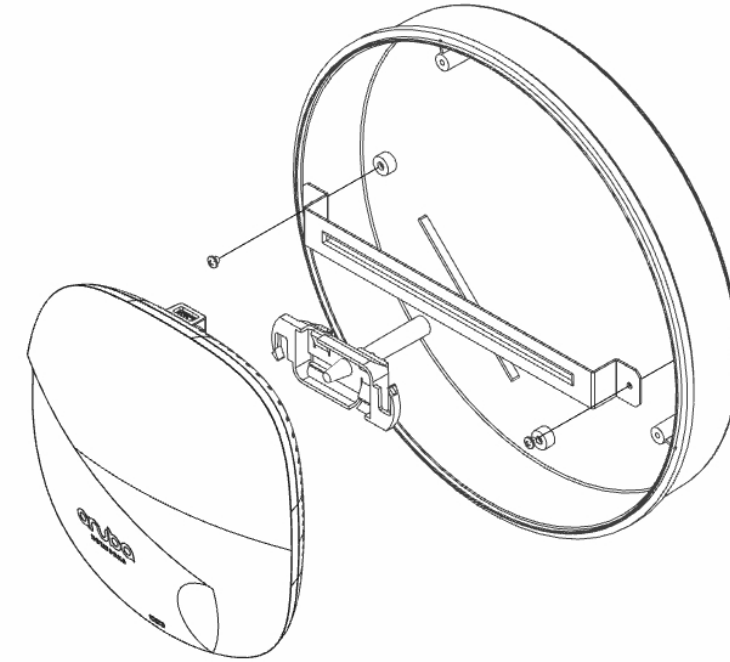
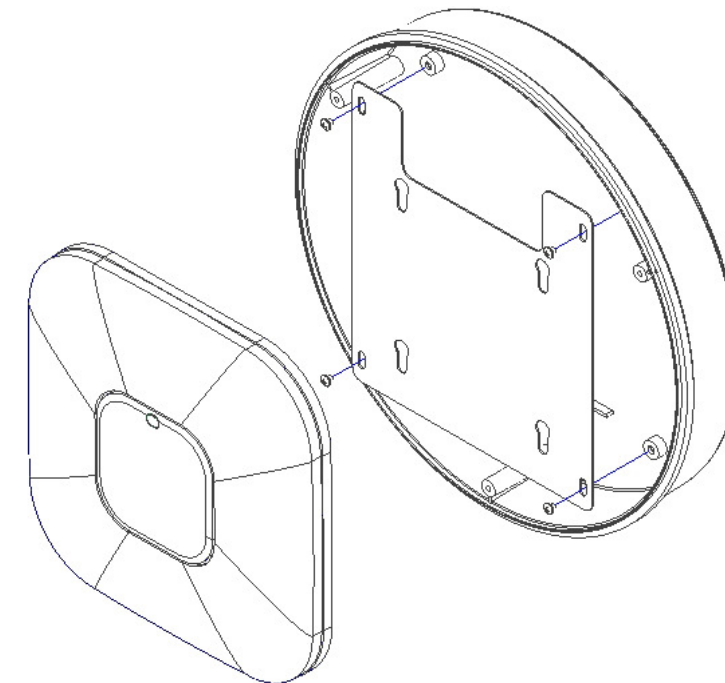

Figure 2 - T-Bar Bracket Install
Figure 3 - Access Point Install To Mounting Bracket
**Step 3** – Fasten the universal T-Bar Bracket (Figure 2) or Cisco Mounting Bracket (Figure 3) to the embosses inside of the enclosure using the provided #8 screws.